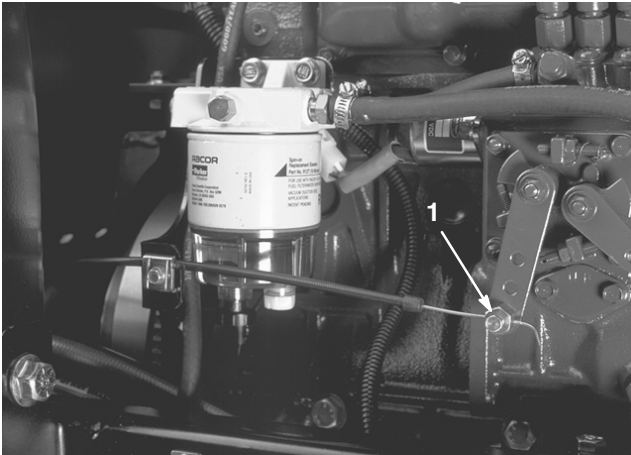

Figure 47
2. Loosen the throttle cable connector on the injection pump lever arm (Fig. 47).